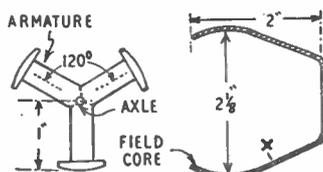

Fig. 1—Magnet cores
Tripolar armatures are never easy to construct, but that used here is not unduly difficult, as the cores consist of three 1 in. sections, including heads, sawn off three iron bolts about  $\frac{1}{4}$  in. in diameter. These bolts will only cost a few pence from an ironmonger. The three pieces are filed at an angle, so that they will meet as shown in Fig. 1, a notch being filed to accommodate the axle. If initial sawing has been a little inaccurate, the pieces should be filed so that they are all the same length.
This is bent to the shape and size shown in Fig. 1, a strip of soft iron about  $\frac{1}{4}$  in. wide and  $\frac{1}{8}$  in. thick being used. A hole is drilled at (X) so that the core can be screwed to the baseboard. The straight portion is then covered with brown paper or tape, and about 600 turns of 26 or 28 S.W.G. wire